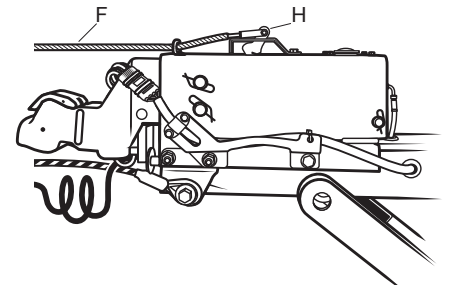

Figure 5
**NEVER** tow the trailer unless the emergency brake pedal (H) is in the fully rearward position. (Figure 5) See decals also, for proper position of emergency brake pedal for towing. The emergency brake cable (F) attaches to the emergency brake pedal (H) on top of the hydraulic brake mechanism. When the emergency brake cable is pulled forcefully, the emergency brake pedal will move forward and lock, activating the trailer brakes. The trailer brakes will remain activated until the emergency brake pedal is reset to the fully rearward position. Call U-Haul at 1-800-528-0355 if you need the emergency brake reset.